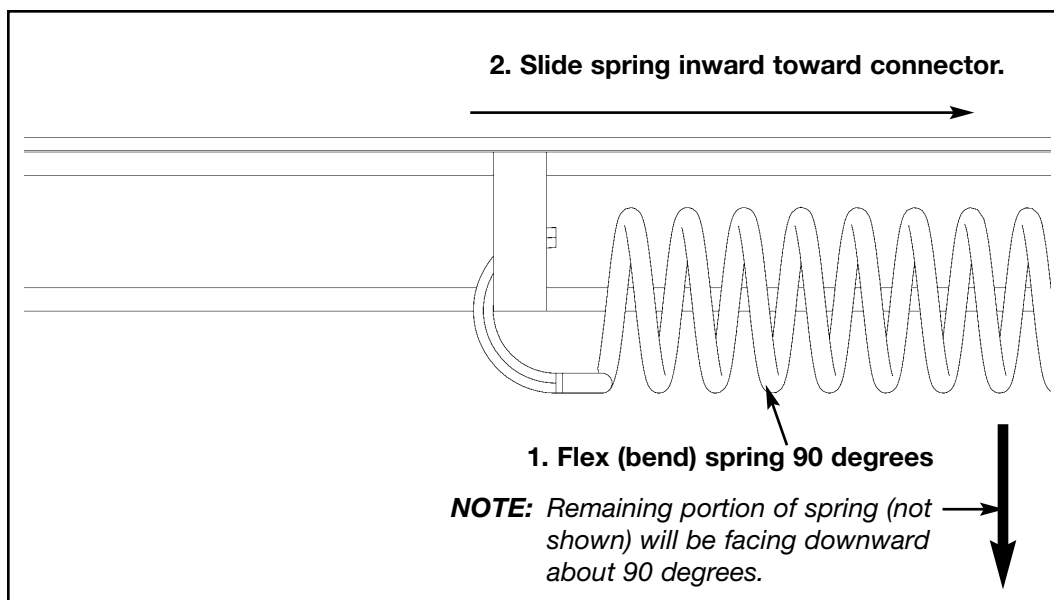

Figure 9
- B.** Flex spring approximately 90 degrees. See Figure 9.
- C.** Slide hook outward and remove from connector. See Figure 9.